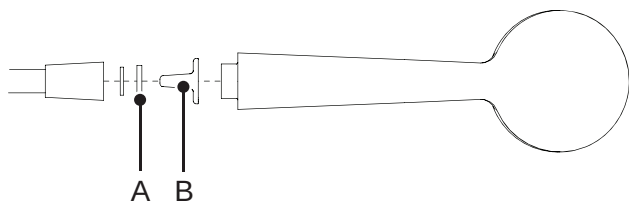

Figure 23
Assemble the gasket (A) and guide (B) between the shower handle and hose. See Figure 23.